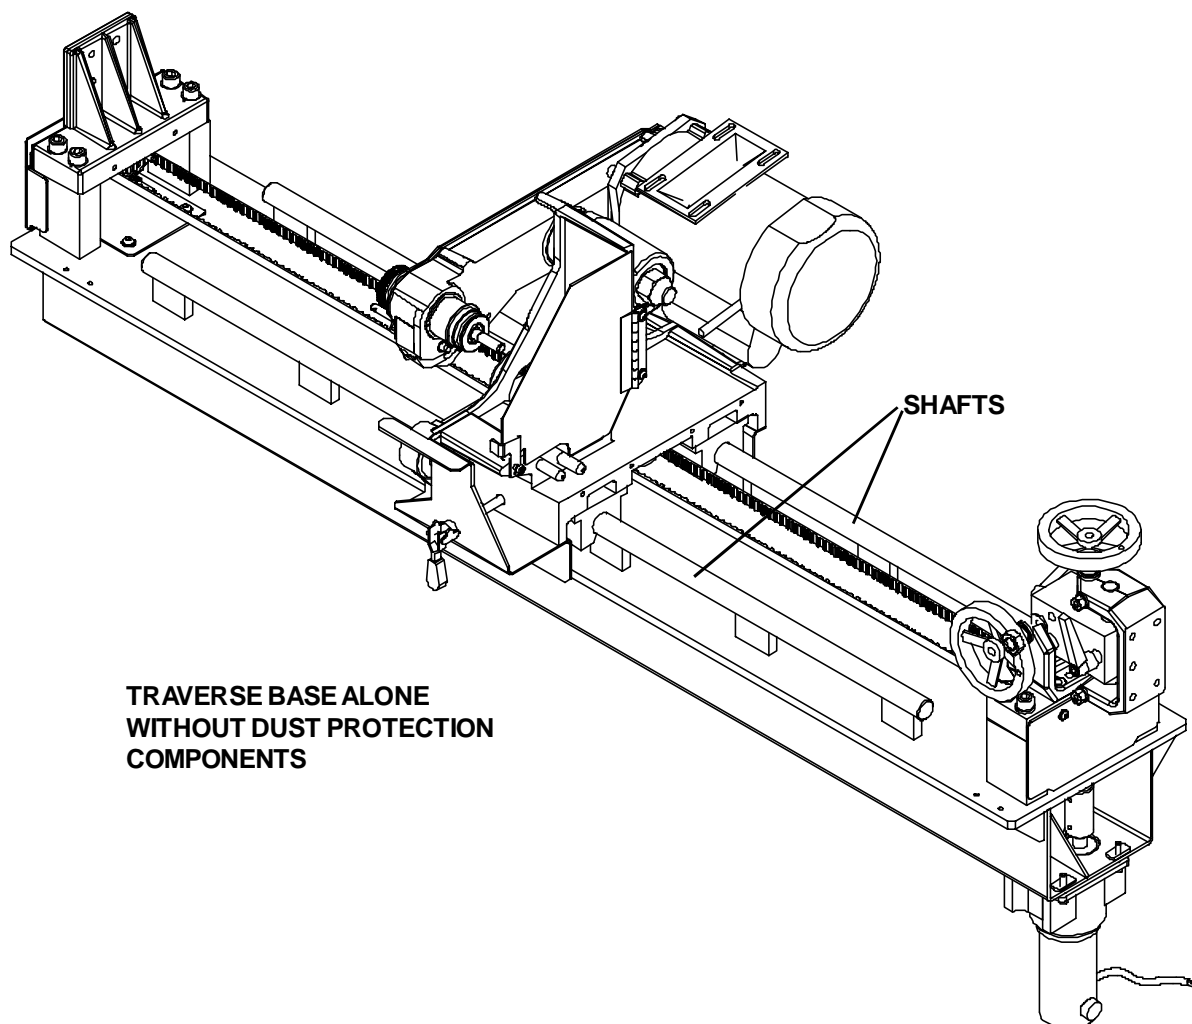

FIG. 11
STEP 2--Flood spray the two shafts with a spray lubricant (do not use a teflon based lubricant) until the lubricant is dripping off the shafts. See FIG. 11 Then run the carriage back and forth through its range of travel. This will carry the lubricant into the bearings.